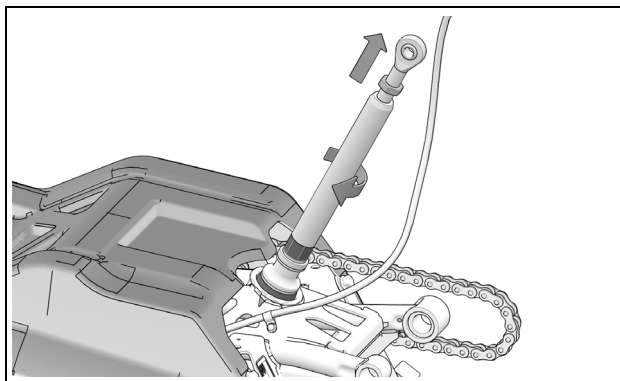

Figure 2
- Loosen the rod end's jam nut. Adjust the length of rod end by turning the strut rod using a 25 mm wrench. See Figure 2.